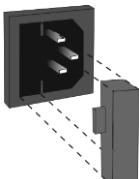
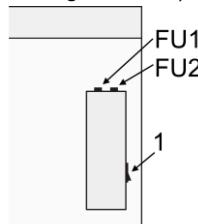

Figure 12.
Figure 14.
8.2.1. Fuse for the control box. Disconnect the unit from the electric circuit. Remove the power cable from its socket on the rear side of the unit. Open the fuse holder by pulling out the holder (fig. 12, compact models) or by screwing off the holder lid marked FU2 (fig. 14, model **UVT-S-AR**). Check the fuse and replace, if necessary, **M 3.15 A** (type **M** - time lag: **Medium**).